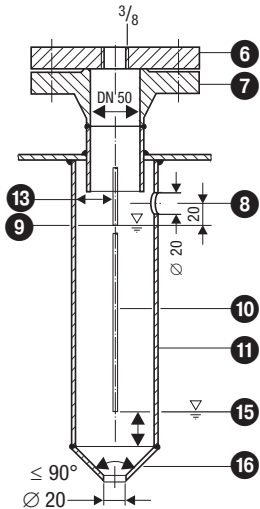

Fig. 5 Protection tube (provided on site) for installation inside the boiler
- The level electrode NRG 16-4 can be installed together with one GESTRA level electrode, one compact level switch or transmitter in a single protection tube or external level pot (inside diameter 100 mm). **Fig. 5 - 8.** If the level limiting electrode is installed inside the vessel, it must be at least 40 mm away from the upper vent hole.
- Make sure that the air distance between the electrode tip and earth (flange, vessel wall) is not less than 14 mm. **Fig. 5 - 8.**